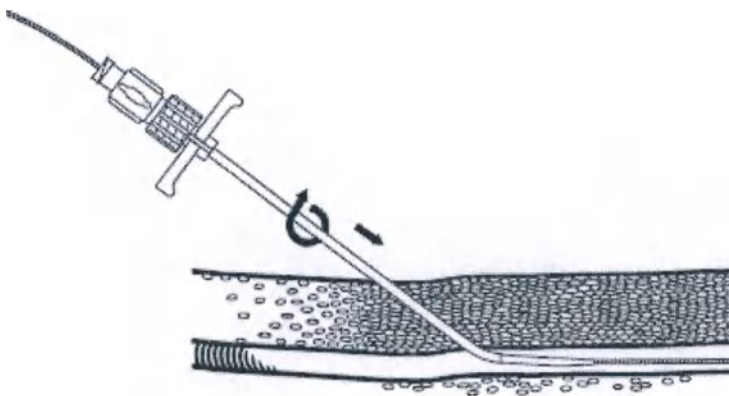

Fig. 4
4. Introduce a sheath-introducer assembly which has an internal diameter of .018 inch (0.46 cm) over the wire guide. With a twisting motion, advance the assembly into the vessel. (Fig. 4)